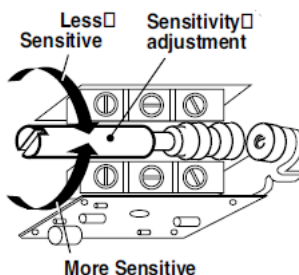

Figure A-49: Sensitivity adjustment
- Start the machine. If the instrument trips on start-up, allow the machine to stop. Turn the sensitivity adjustment 1/4 turn clockwise (see Figure A-49): Depress the reset button and restart the machine. Repeat this process until the unit does not trip on start-up.